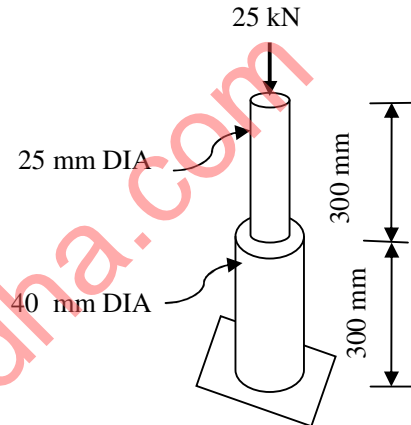

Fig.4 Q.5(b)
- (b) Using FEM, determine nodal displacements and stresses in elements for the Mild Steel column assembly shown in the fig.4. **07**